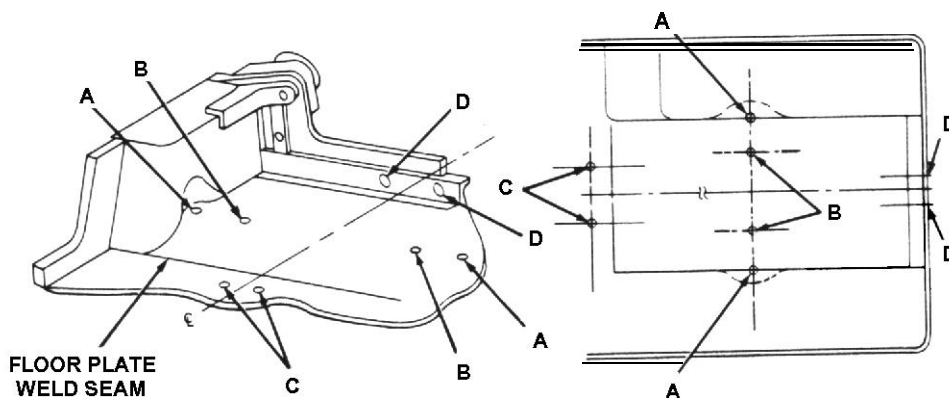

Figure 4-13. Rustproofing Cargo Body.
(1) Insert flexible tool into hole A of the upper frame and hole B of the side frame, then spray slowly while withdrawing the tool.
(2) Insert 90 degree short tool into holes C of the lower frame and spray in all directions.
(3) Plug all holes.
g. Rustproofing Cargo Body (see Figure 4-13).
(1) Insert 90 degree short tool into holes A, B, C, and D of the cargo bed and spray in all directions.
(2) Use the short rigid tool to spray all surfaces of the taillight openings.
(4) Plug all holes